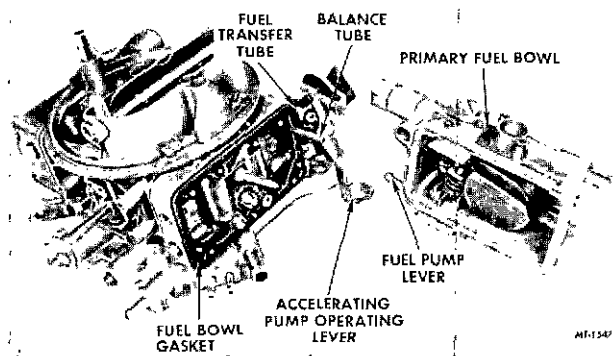

FIG. 28 Removing or Installing Primary Fuel Bowl
4. Remove four fuel bowl screws and primary fuel bowl assembly by sliding straight off transfer tube (Figure 28).